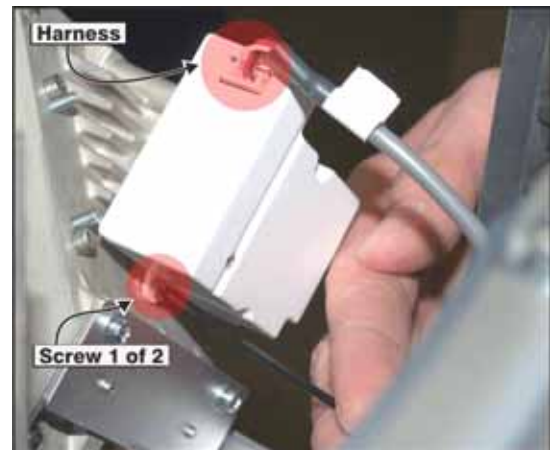

Figure 5-70 Light Sensor
3. Disconnect the harness from the light sensor module (**Figure 5-70**).
2. Disconnect the harness from the light sensor module (**Figure 5-70**).
3. Use a 2mm hex key to remove the two hex screws securing the sensor to the IOS (**Figure 5-70**).